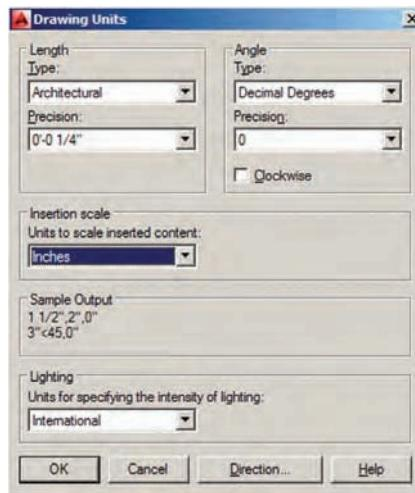

FIGURE 14.6 Setting architectural drawing units
4. Type **UN** (for Units) and press Enter. Choose Architectural units (or Decimal units in metric) with a precision of 1/4" (metric users choose a precision of 0.0). Set Units To Scale Inserted Content under the Insertion Scale area to Inches (or Centimeters in metric) (see Figure 14.6). Click OK.